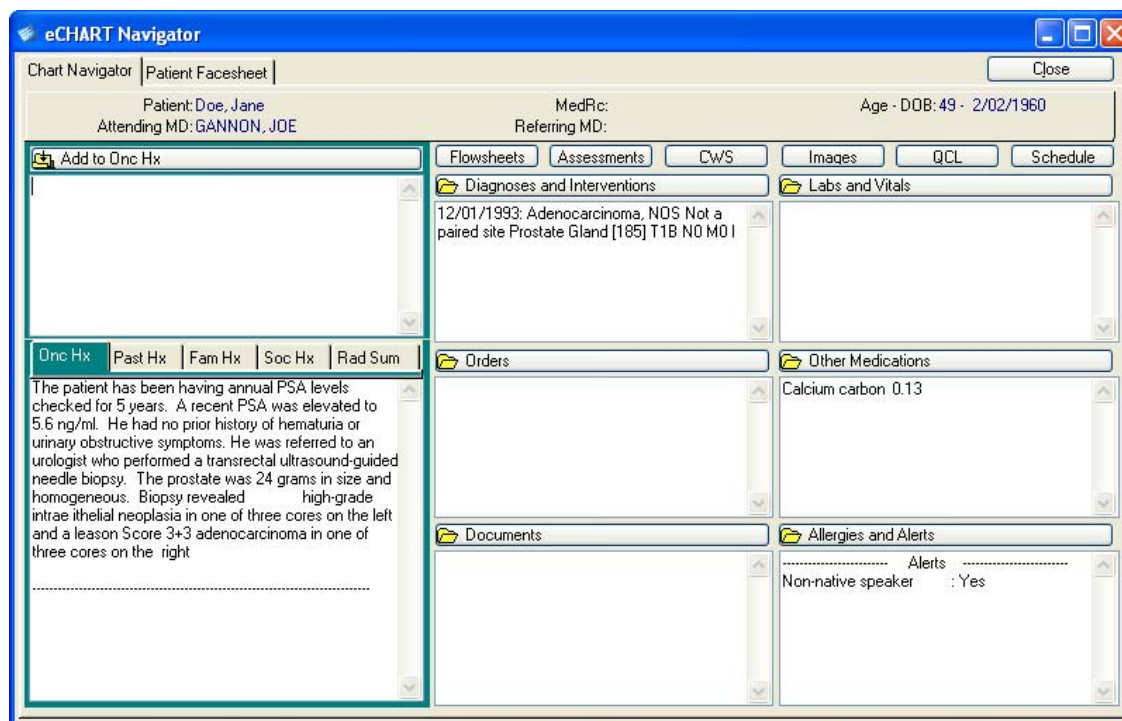

Figure 6: The eCHART Navigator Window – General View
2. In the toolbar, click  to open the eCHART Navigator window, shown in Figure 6.
The Dose Site Summary pane instead of the Other Medications pane appears in the Radiation Oncology view as shown in Figure 6. The Dose Site Summary pane shows a summary of the prescribed and current doses for each dose tracking site and all of the defined dose action points. The third view of the eCHART Navigator window is shown below.